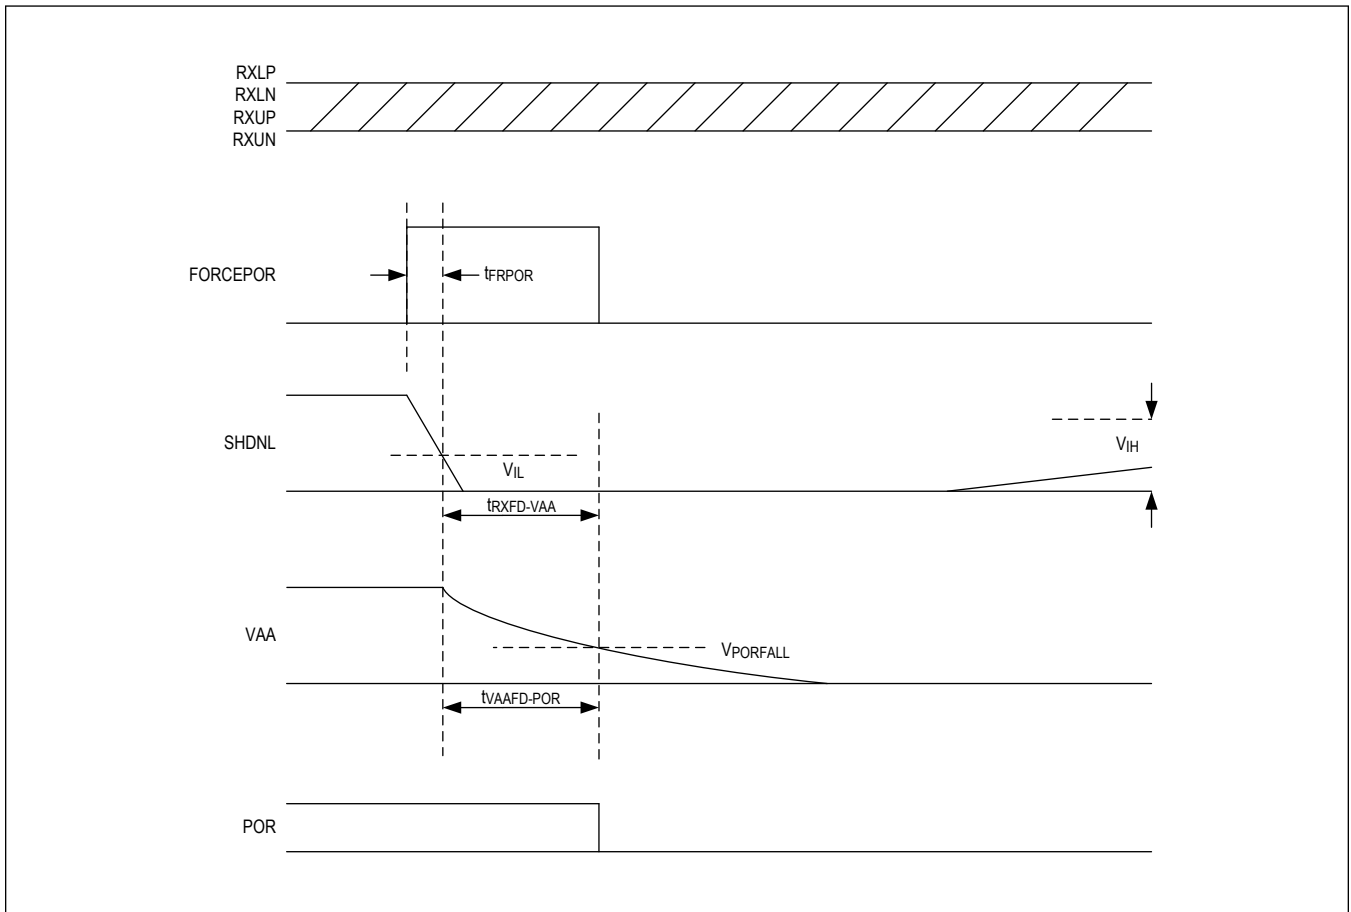
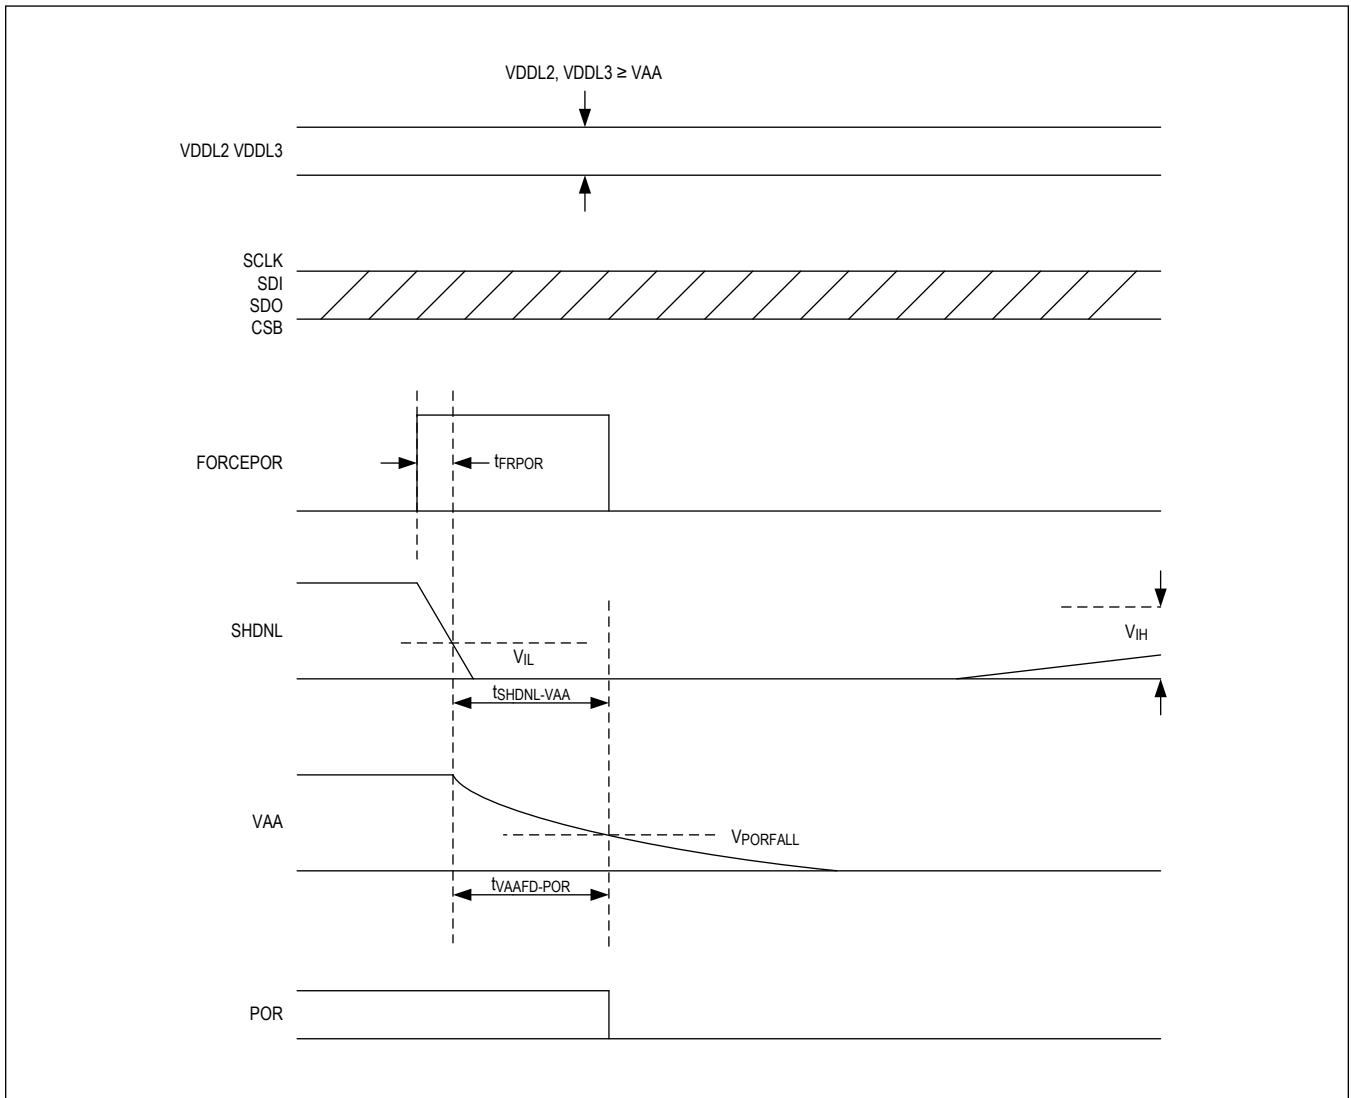

Figure 21. Power-On and Shutdown Timing (UART Control)
Figure 22. Power-On and Shutdown Timing (SPI Control)
**Note:** As shown in Figure 21 AND Figure 22 the shutdown may also be controlled by writing the specific FORCEPOR bit. If the SHDNL is actively driven the application circuit should ensure that there is no contention and this is driven below  $V_{IL\_SHDNL}$ .